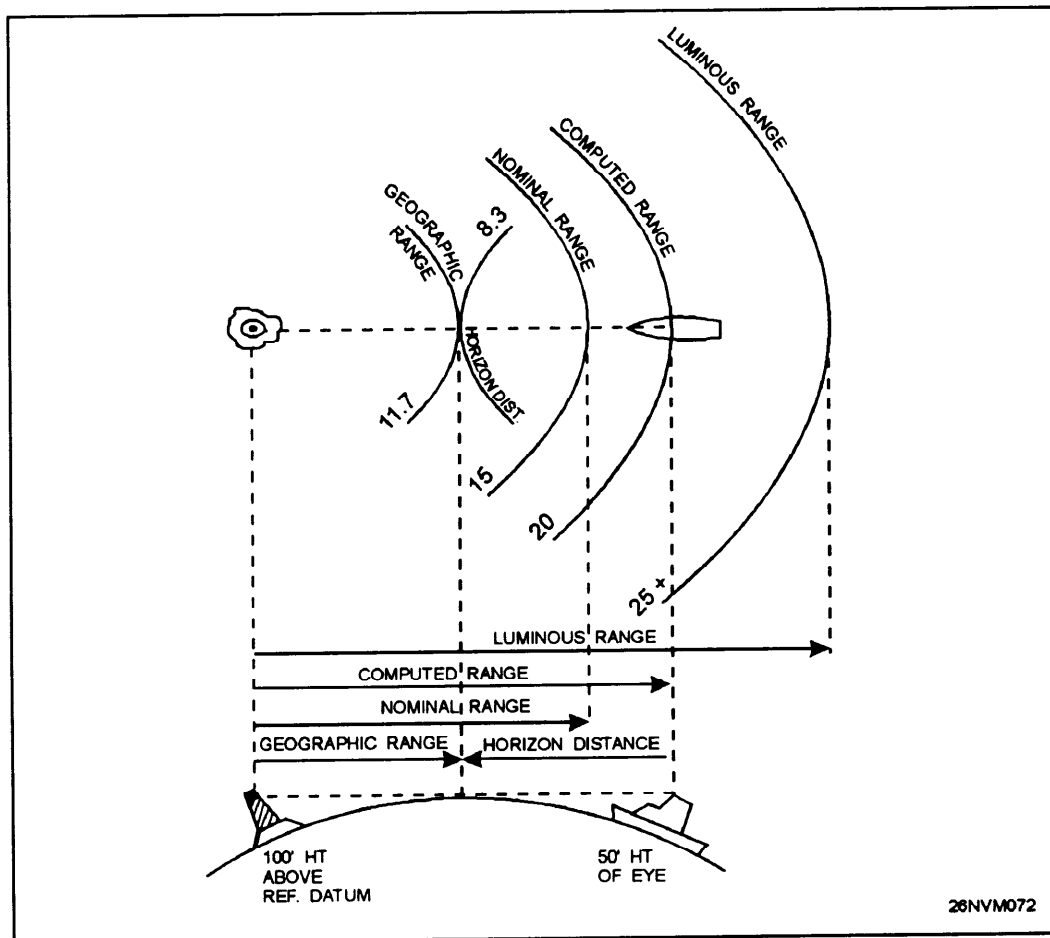

Figure 4-3. Relationship of light visibility terms.
There are several terms associated with any light's visibility. Figure 4-3 will help you to visualize the relationships existing among these terms as they apply in a situation in which an observer with a height of 50 feet is located exactly at the computed range to a light having a geographic range of 11.7 miles and a nominal range of 15 miles. Review figure 4-3 and the associated terms list on the next page.
**Horizon distance** - This is the distance expressed in nautical miles from the position above the surface of Earth along a line of sight to the horizon; the line along which Earth and sky appear to meet. The higher the position, the farther the horizon distance will be. Figure 4-3 shows the relationship of height of eye to horizon distance.